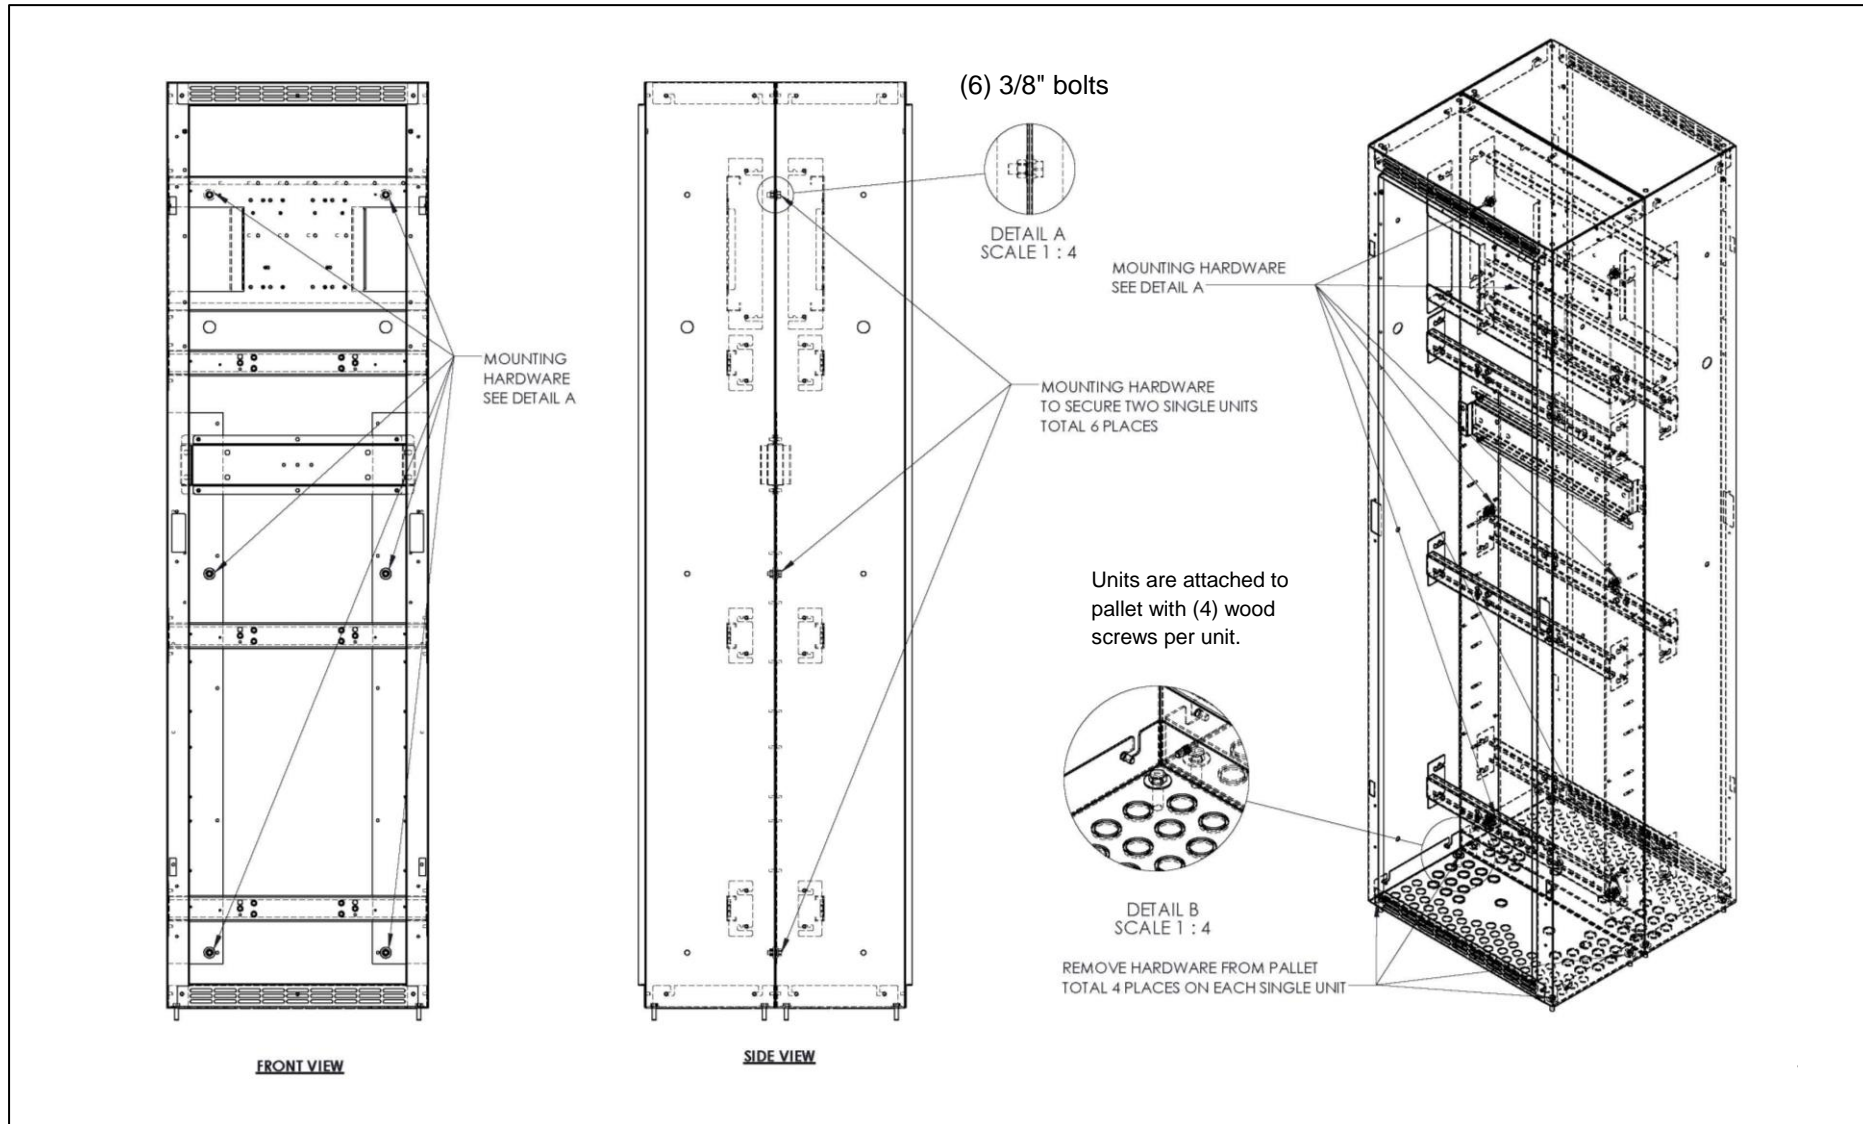

Figure 6 Shipping: Bolt and Wood Screw Locations
Most units are shipped bolted together back-to-back with (6) 3/8" bolts. See Figure 6 for bolt locations. If units are to be installed in a back-to-back configuration, leave them bolted together as shipped. Otherwise, remove bolts and nuts and save.
Remove the wood screws attaching the unit(s) to the pallet (Figure 6). Make sure units do not tip over.